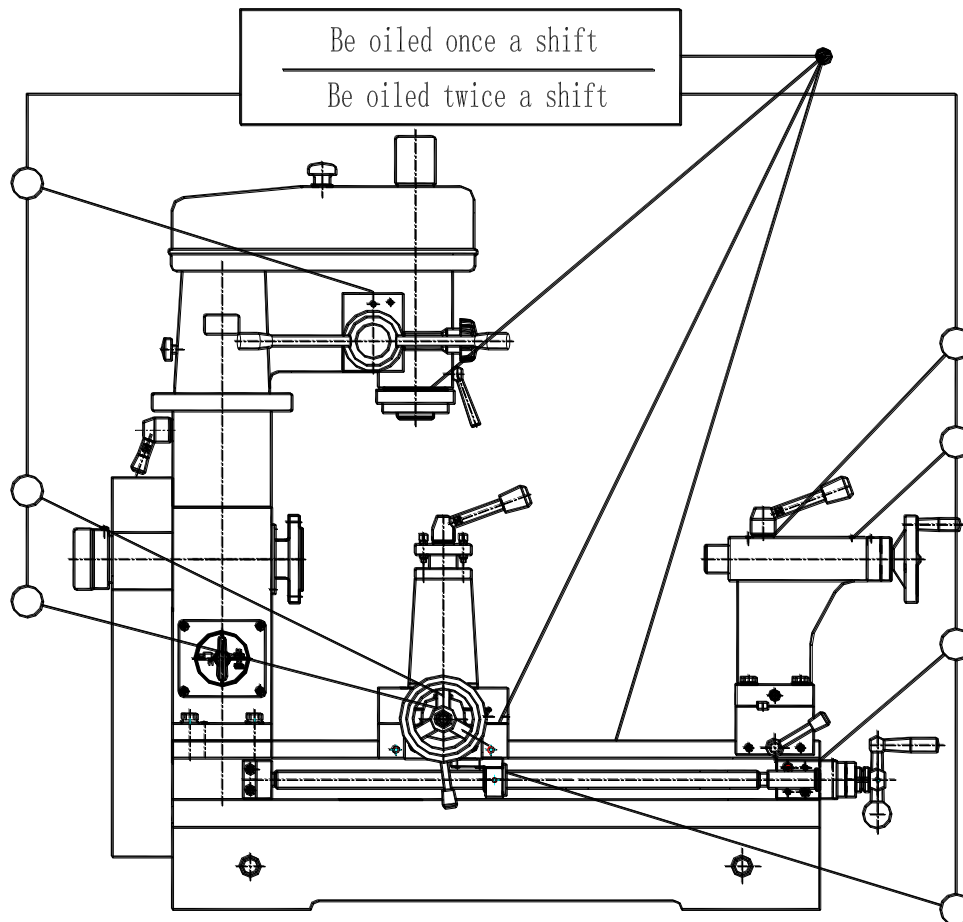

Fig. 3 Diagram of lubrication
7. LUBRICATION(Fig.3)
All oil sites on the machine are oiled with engine oil in accordance with the regulations mentioned in figure 3.